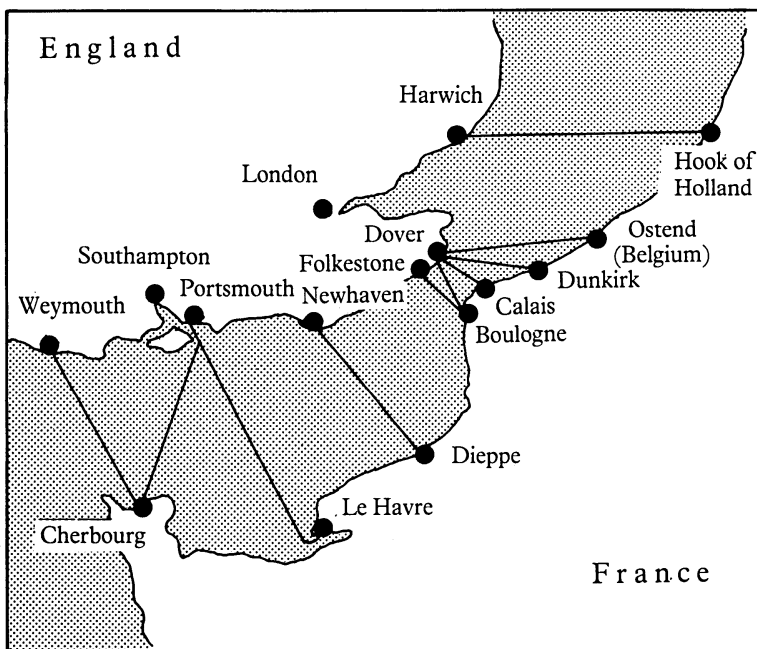

Figure 7 Some ferry services between England and Europe
- *Do we need it?* Dover Harbour Board already operates the world's largest ferry port. Ferry services from Dover could be expanded still further. There are cross-Channel services from other ports too (Figure 7 on the next page). It would be possible to develop these other ports, creating employment in areas other than the South East. Developing cross-Channel ferries in this way could make the Channel Tunnel unnecessary.